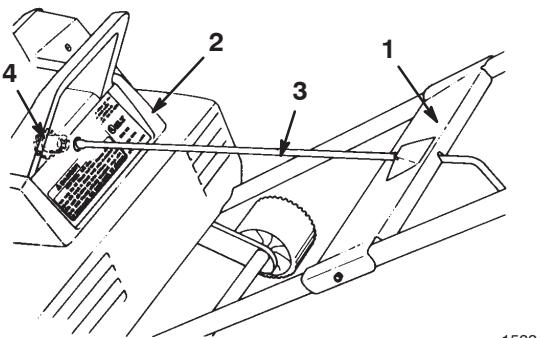

Figure 3
5. Place the mounting plate over the tubes (Fig. 3). Align the mounting plate holes with the upper and lower tubing holes.
6. Insert the end of the chute crank through the hole in the shroud. Turn the chute crank rod **lightly** until the flattened end drops into the slot in the gear. Firmly push the chute crank into the gear until it snaps into place (Figs. 3 and 4).